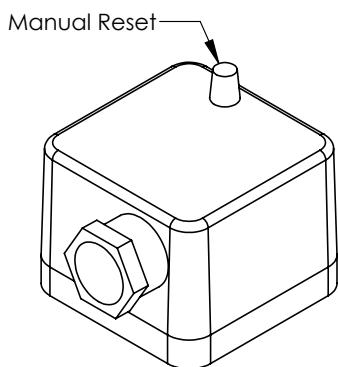

Figure 24: High/Low Gas Pressure Switch
10. If the high or low gas pressure switch tripped, it must be manually reset before the appliance can be restarted. (See Figure 24)